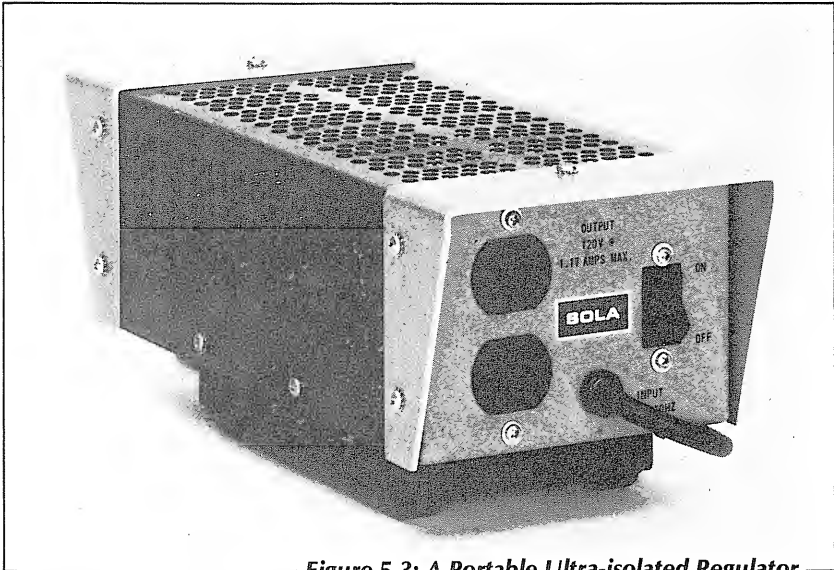
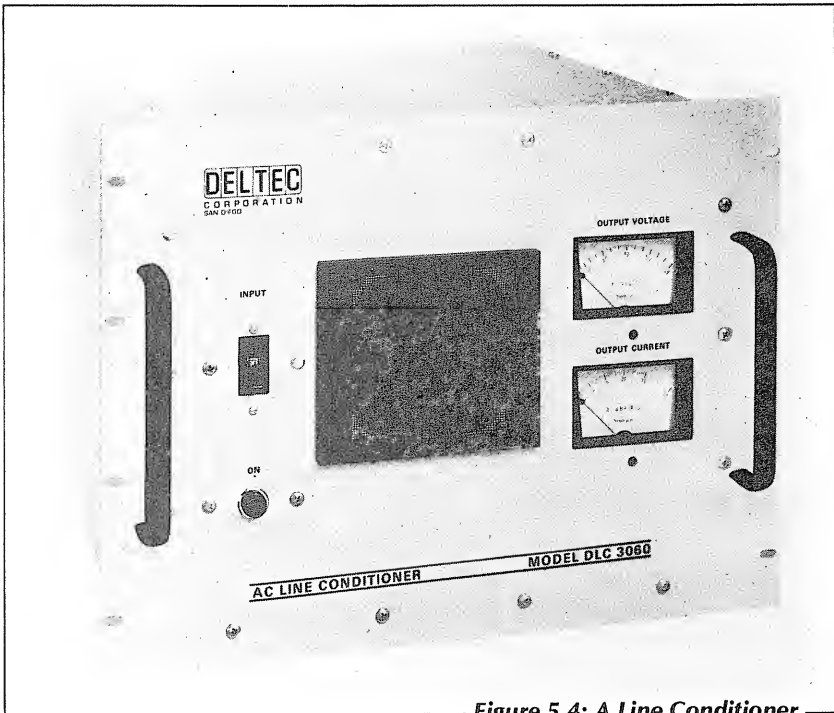

Figure 5.3: A Portable Ultra-isolated Regulator
Figure 5.4: A Line Conditioner
**Line Conditioners.** A line conditioner is a regulator that includes an isolation transformer. The terms regulator and conditioner are sometimes used interchangeably. A line conditioner provides voltage regulation and noise rejection. A portable ultra-isolated regulator is shown in Figure 5.3 and a larger line conditioner (3 kVA) is shown in Figure 5.4.